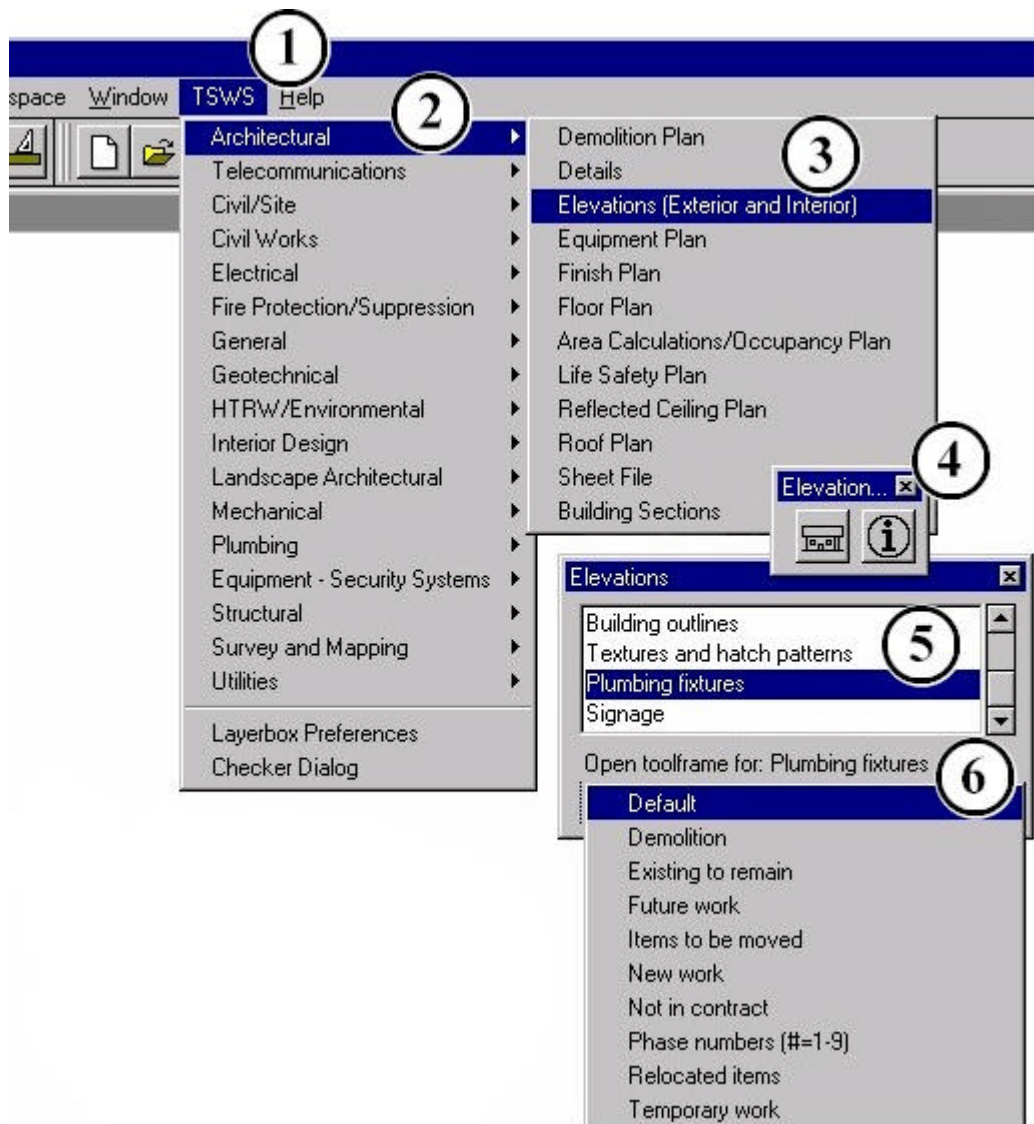

Figure 1 – Six (6) basic steps to the workflow
The Tri-Services Workspace is designed to be user friendly. Most operations can be broken down into six (6) or less steps. The following are the six (6) basic steps (Figure 1) needed to use the Tri-Services A/E/C CADD Standards properly:
Notes: *[Instructor – Explain to the students that each operation that is done in MicroStation does not require these six (6) steps. In most cases, only step 5 needs to be repeated to select a different symbolology type. Using Figure 1 on the next page, explain the six (6) steps to the class.]*